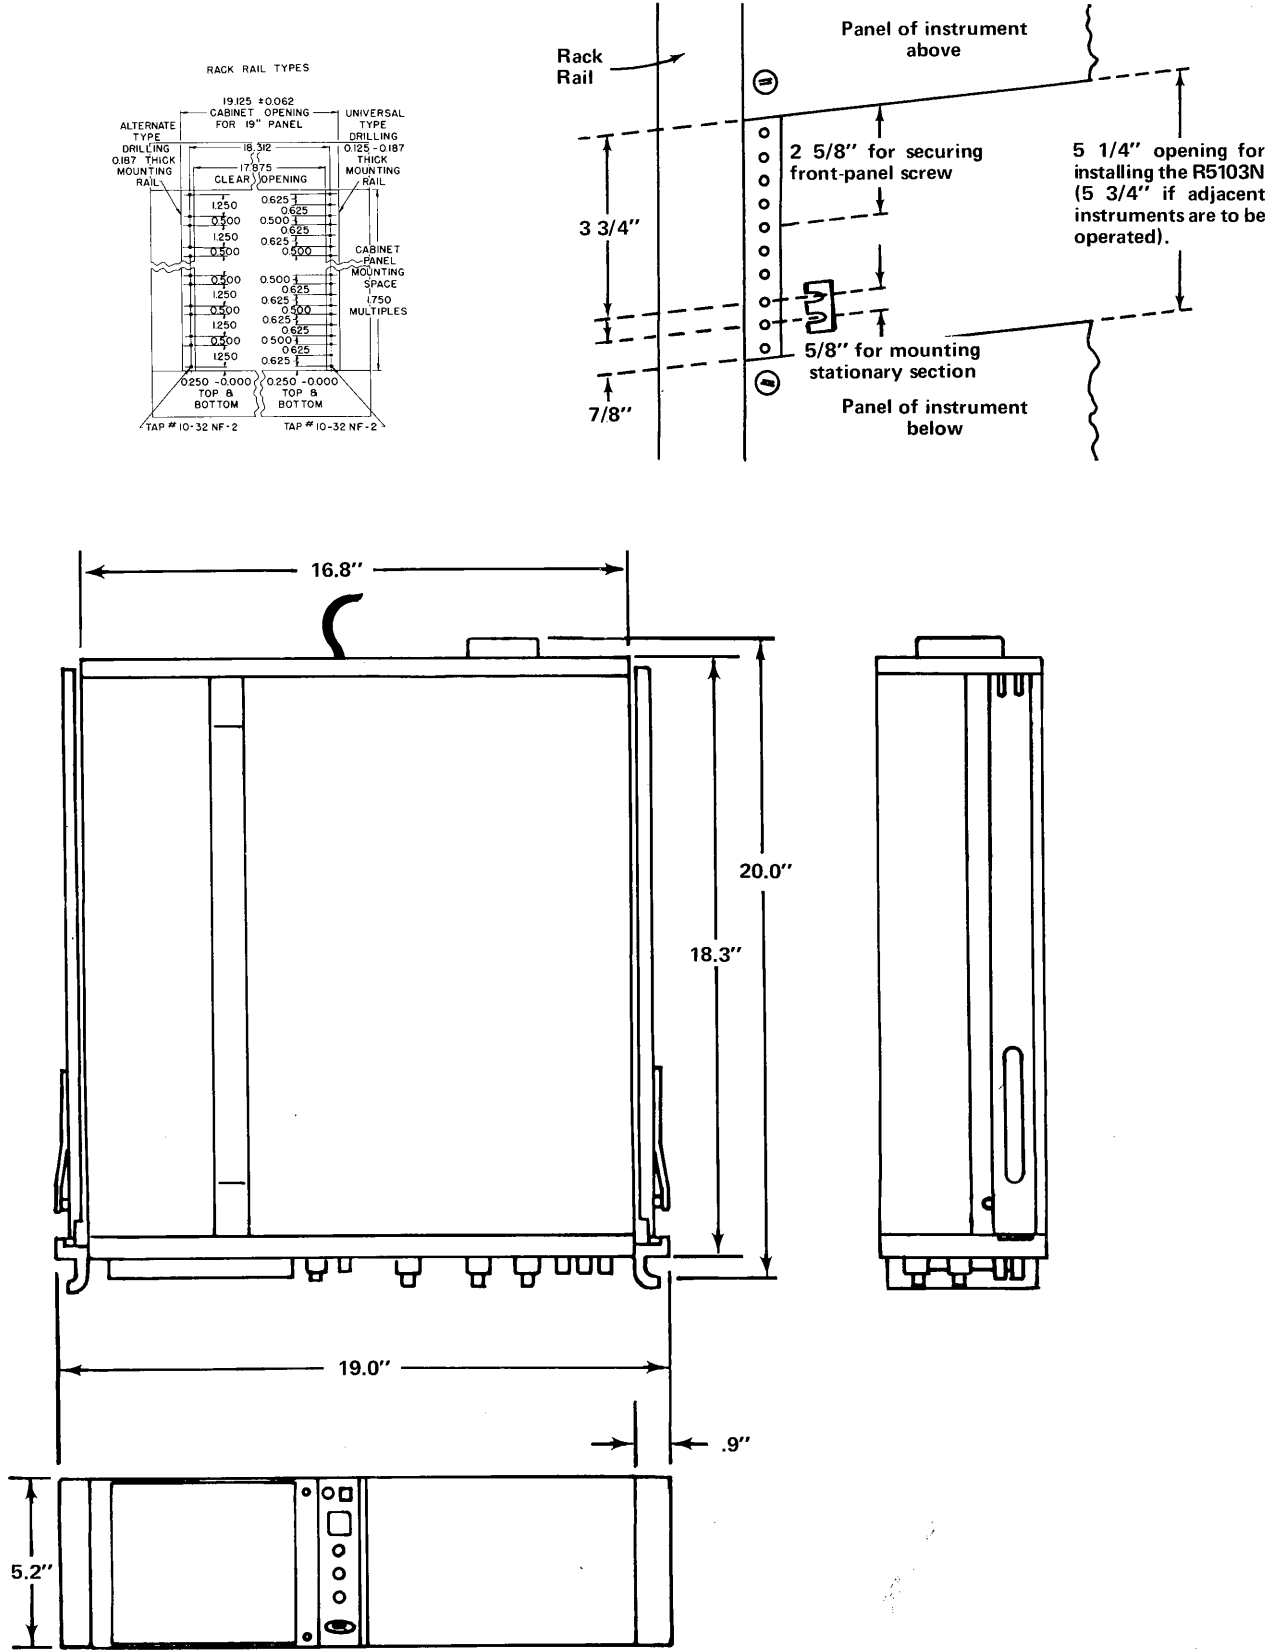

Fig. 6-2. Dimensional diagram.
1. To mount the instrument directly above or below another instrument in a cabinet rack, select the appropriate holes in the front rack rails for the stationary sections, using Fig. 6-2 as a guide.